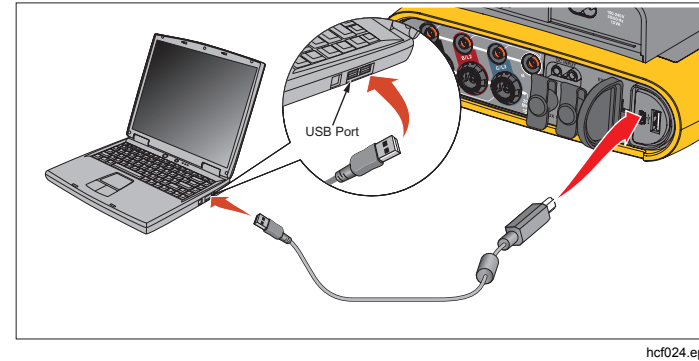

Figure 10. Energy Logger to PC Connections
2. Connect the USB cable to the USB ports of the computer and the Logger as shown in Figure 10.